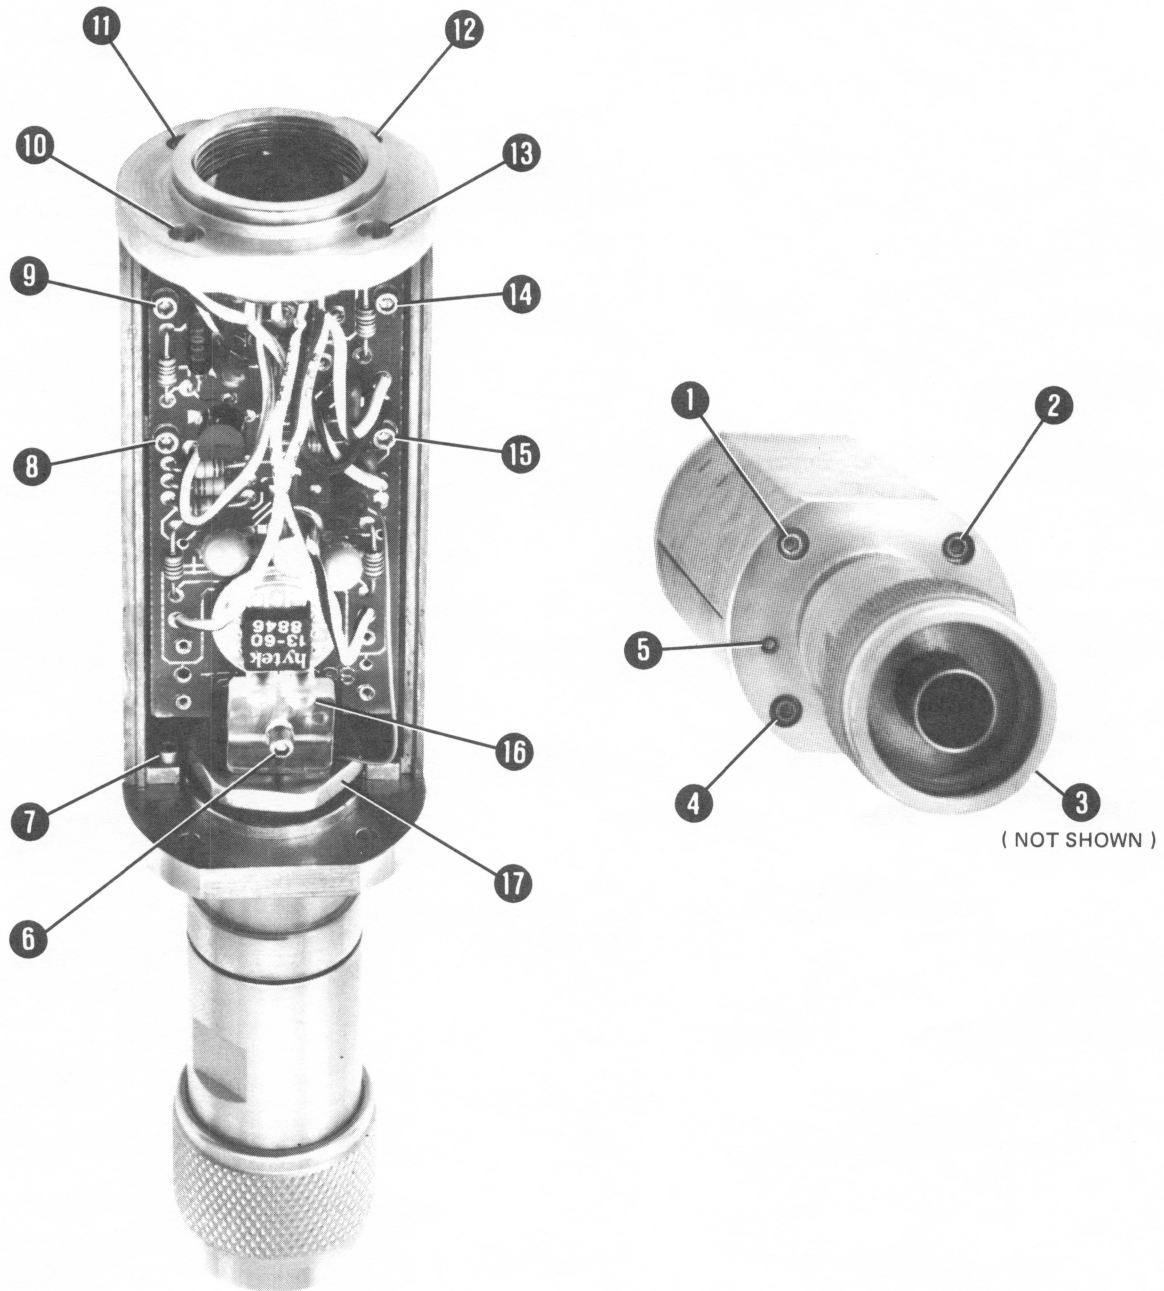

Figure 8. Power Sensor Hardware Locations
3. Position the Power Sensor as shown in Figure 8, top view so that the small hole (5) is on the left side of the rf input connector. Remove allen cap screws (1), (2), (10), and (13). Loosen screws (11), and (12). Remove the upper chassis from the Power Sensor.
4. Remove clamp screw (6) together with screw spring and clamp (16). This will free the two gold wires that come from the bulkhead assembly.
5. Remove cap screws (7), (3), and (4).
8. If A2 Input Amplifier Assembly must be removed then remove cap screws (8), (9), (11), (12), (14), and (15).
1. Set printed circuit board and connector into place as shown in Figure 8, bottom view.
2. Insert cap screw (8), (9), (11), (12), (14), and (15) but do not tighten.
3. Center A2 circuit board so there is an equal air gap between each side and chassis. Tighten cap screws (8), (9), (14), and (15).